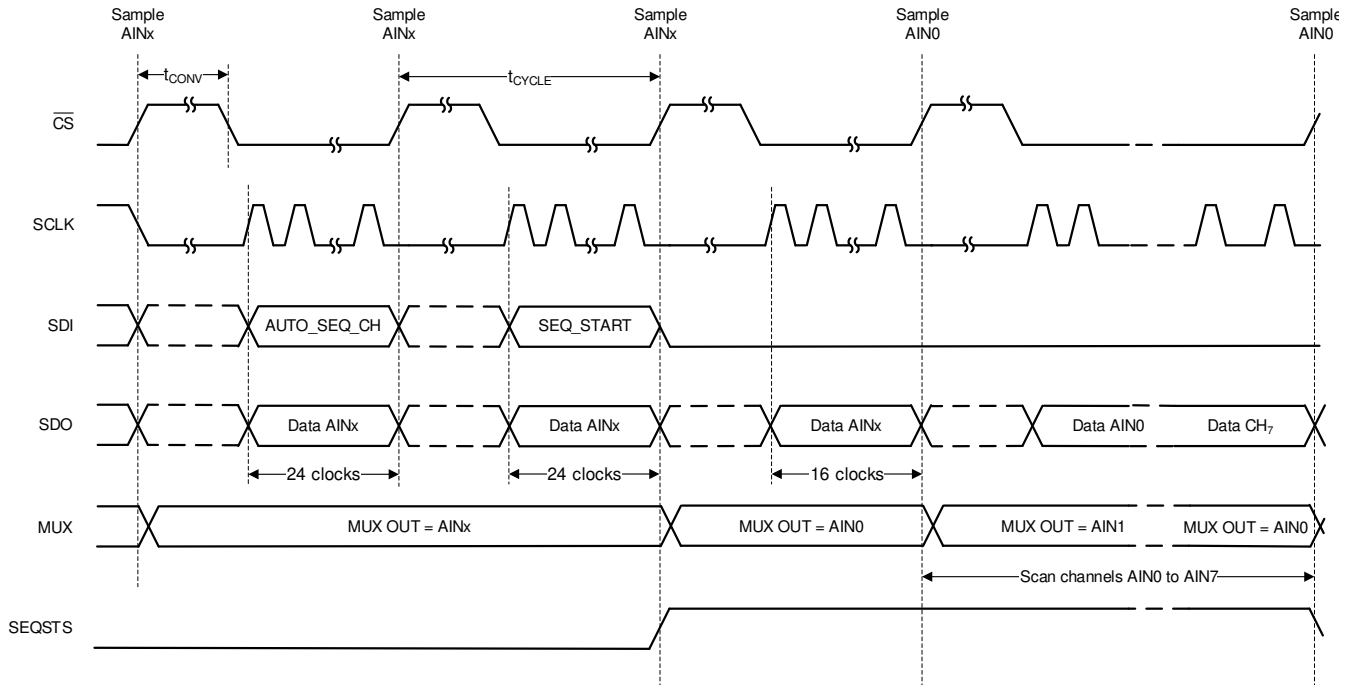
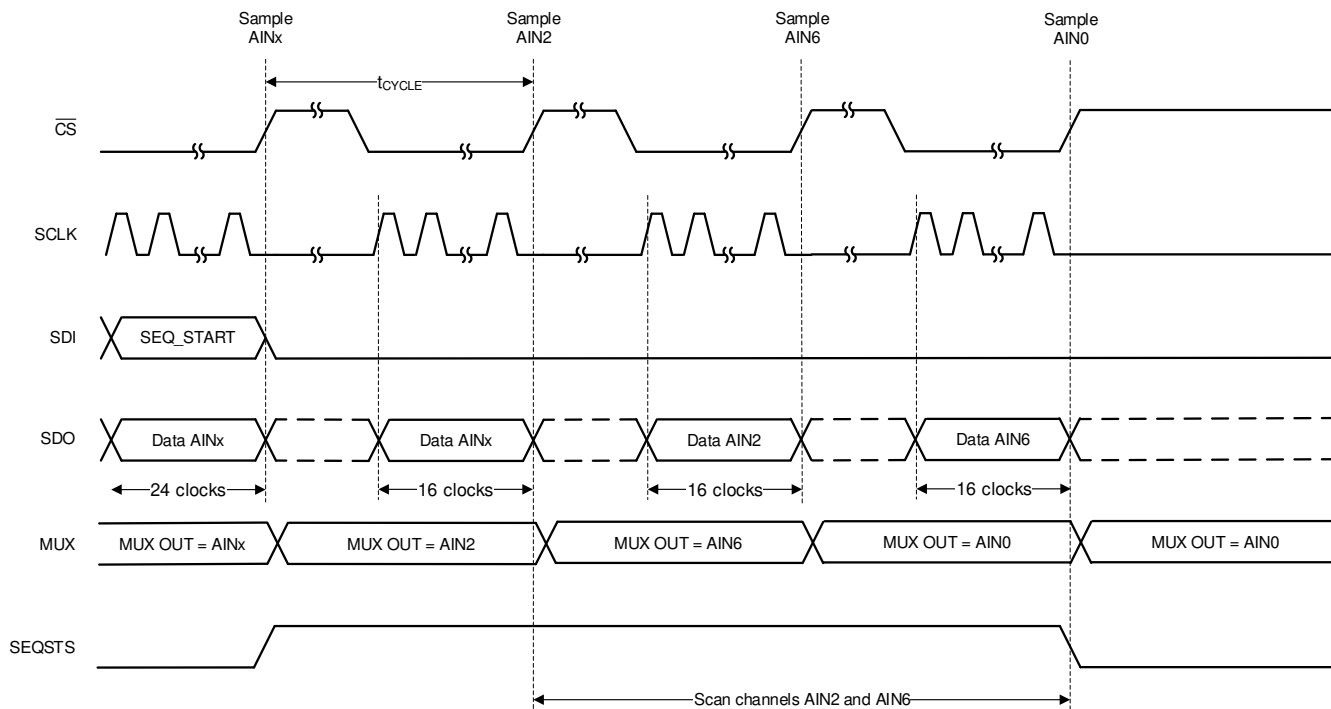

图 6-14. Starting a Sequence in Auto Sequence Mode
图 6-15. Example: Scanning Channels 2 and 6 in Auto Sequence Mode
In auto sequence mode, the internal channel sequencer selectively scans channels from AIN0 through AIN7 in ascending order. To select auto sequence mode, configure SEQ_MODE to 10b in the DEVICE_CFG register using a 3-byte register access. Enable one or more channels among AIN[7:0] by configuring the AUTO_SEQ_CFG1 register. By default all analog input channels are enabled. After enabling the desired channels, start the sequence by setting SEQ_START to 1b. The ADC auto-increments through the enabled channels after every $\overline{CS}$ rising edge. Configure SEQSTS_CFG bit to 1b in SDO_CNTL4 register to indicate sequence status on SDO-1/SEQSTS pin. When SEQ_START is set to 1b, the SDO-1/SEQSTS pin is at logic 1 as shown in 图 6-14 until the last channel conversion is complete. After the last enabled channel conversion is complete, channel AIN0 is selected and SDO-1/SEQSTS is in a high-impedance state.
As an example, 图 6-15 depicts a timing diagram for when the device is scanning AIN2 and AIN6 in auto sequence mode. When AIN6 is converted, SDO-1/SEQSTS is Hi-Z and AIN0 is selected as the active channel. At the end of sequence, if more conversion frames are launched the device returns valid data corresponding to AIN0.
- Configure the AUTO_SEQ_CFG1 register. In 图 6-15, AUTO_SEQ_CFG1 = 0x44.
After configuring the channel scanning order, start index, and stop index, initiate the scanning by setting the SEQ_START bit to 1b. The ADC scans through the enabled channels after every $\overline{CS}$ rising edge as defined by the channel scanning order. When SEQ_START is set to 1b, the SDO-1/SEQSTS pin is pulled high until the last channel conversion frame is complete, as described in 图 6-14. As illustrated in 图 6-15, channel AIN0 is selected and SEQSTS/SDO-1 goes to Hi-Z after the last enabled channel conversion is complete.
As an example, 图 6-15 provides a timing diagram for when the channel configuration is set as in 表 6-5. When AIN6 is converted, SEQSTS/SDO-1 goes to Hi-Z and AIN0 is selected as the active channel. If more conversion frames are launched at the end of the sequence, the device returns valid data corresponding to AIN0.
- Configure the CCS_START_INDEX and the CCS_END_INDEX registers. In 图 6-15, CCS_START_INDEX = 0 and CCS_STOP_INDEX = 1.
- Configure the CCS_SEQ_LOOP register to 1 to indefinitely loop the sequence. In 图 6-15, the CCS_SEQ_LOOP register = 0b.